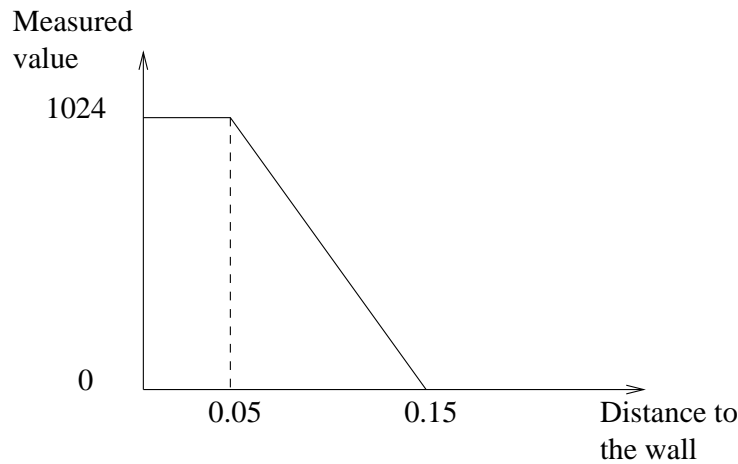

Figure 3.9: Distance measurements of the *kiki* sensors.
7. In the `DistanceSensor` node, you must introduce some values of distance measurements of the sensors to the `lookupTable` field, according to figure 3.9. These values are: